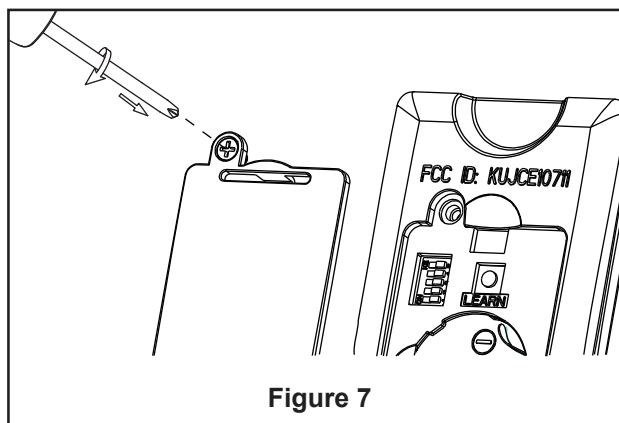

Figure 7
- ☐ 7. Secure the glass to light kit by twisting in a clockwise direction. Twist the glass gradually **until it snaps onto the light kit**. Do not over-tighten. (Figure 7)
9. Replace battery cover on the remote control and secure with the previously removed screw. (Figure 7)